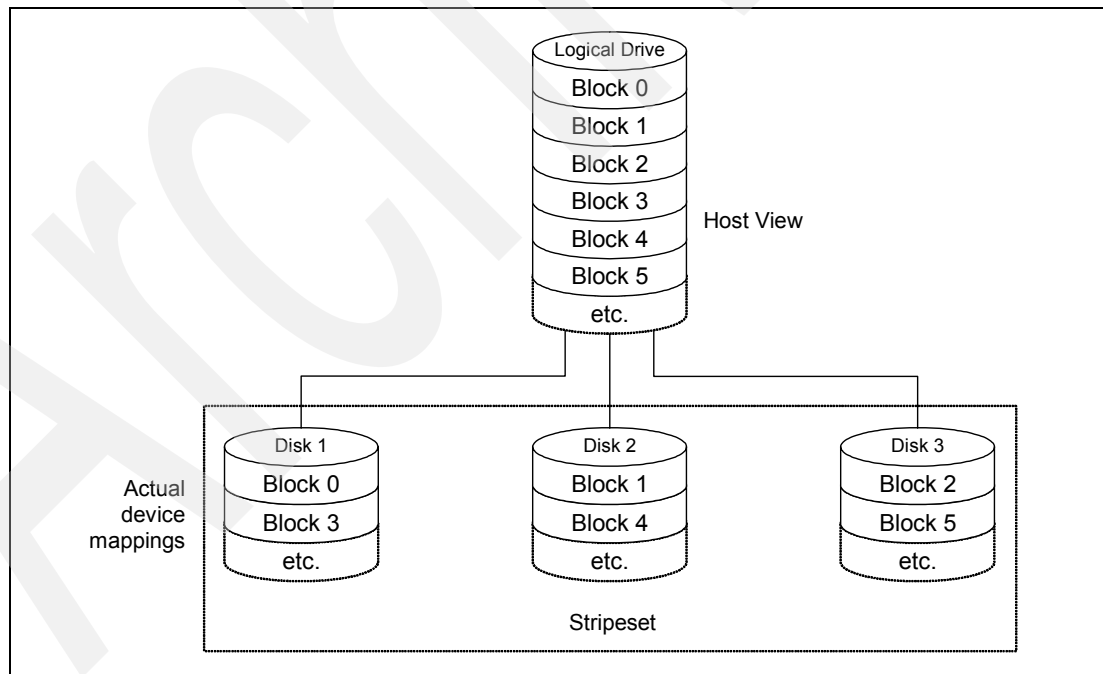

Figure 2-15 RAID-0
- ▶ RAID-0: For performance, but generally not recommended (Figure 2-15)